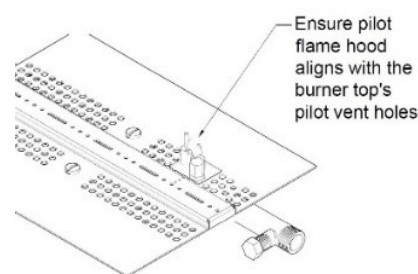

FIGURE 49
- 12) Mount the pilot assembly to the removed burner pan using the screws provided with the pilot assembly. Be careful not to kink the pilot assembly tube as it can severely damage the pilot tube. **(Figure 49)**